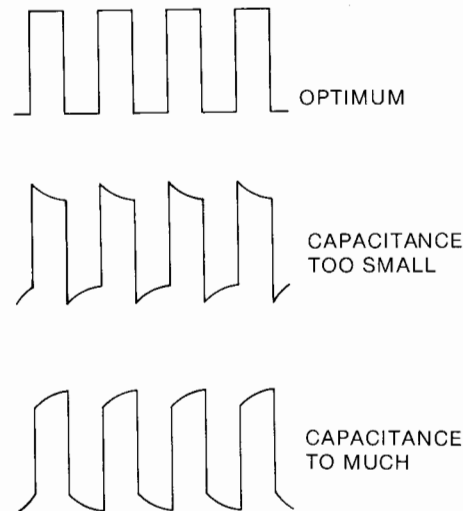

FIG 8.5 PROBE COMPENSATION
- d. Adjust frequency compensating trimmer on the probe until the displayed square wave is in optimum state as shown in Fig. 8.5.